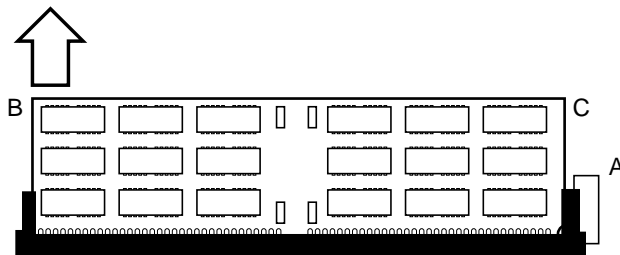

FIGURE 8-2 Pulling the Ejection Lever
5. Pull the ejection lever (A) in the opposite direction of the DSIMM you want to eject. See FIGURE 8-2.